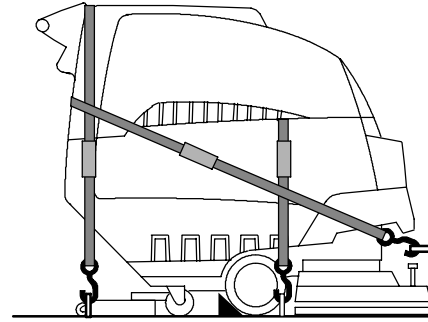

FIG. 85
5. Secure with tie-down straps as shown (Figure 85). It may be necessary to install tie-down brackets to trailer or truck.